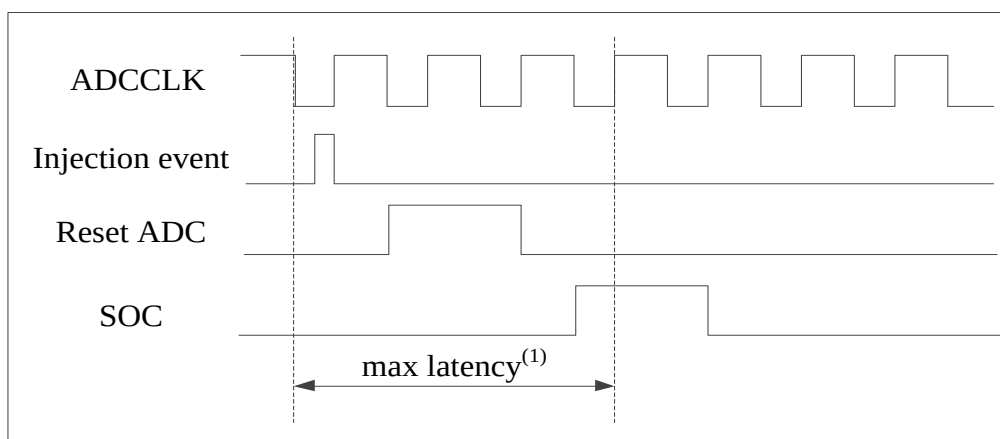

Figure 22 Injected conversion latency
3. Then, the regular group channel conversion is resumed from the last interrupted regular conversion. If a regular event occurs during an injected conversion, it doesn't interrupt it but the regular sequence is executed at the end of the injected sequence. Figure 22 shows the timing diagram.